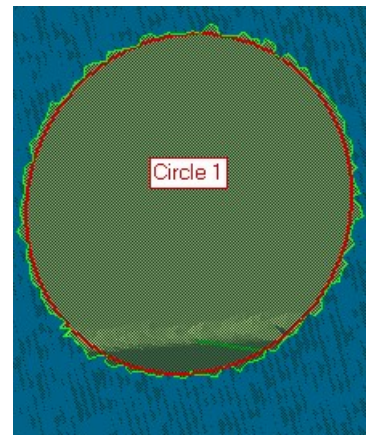

Figure 73
- In the **Parameters** roll-up group, change the **Diameter** value to **1.125 in** and press **Enter**, see **Figure 73**.